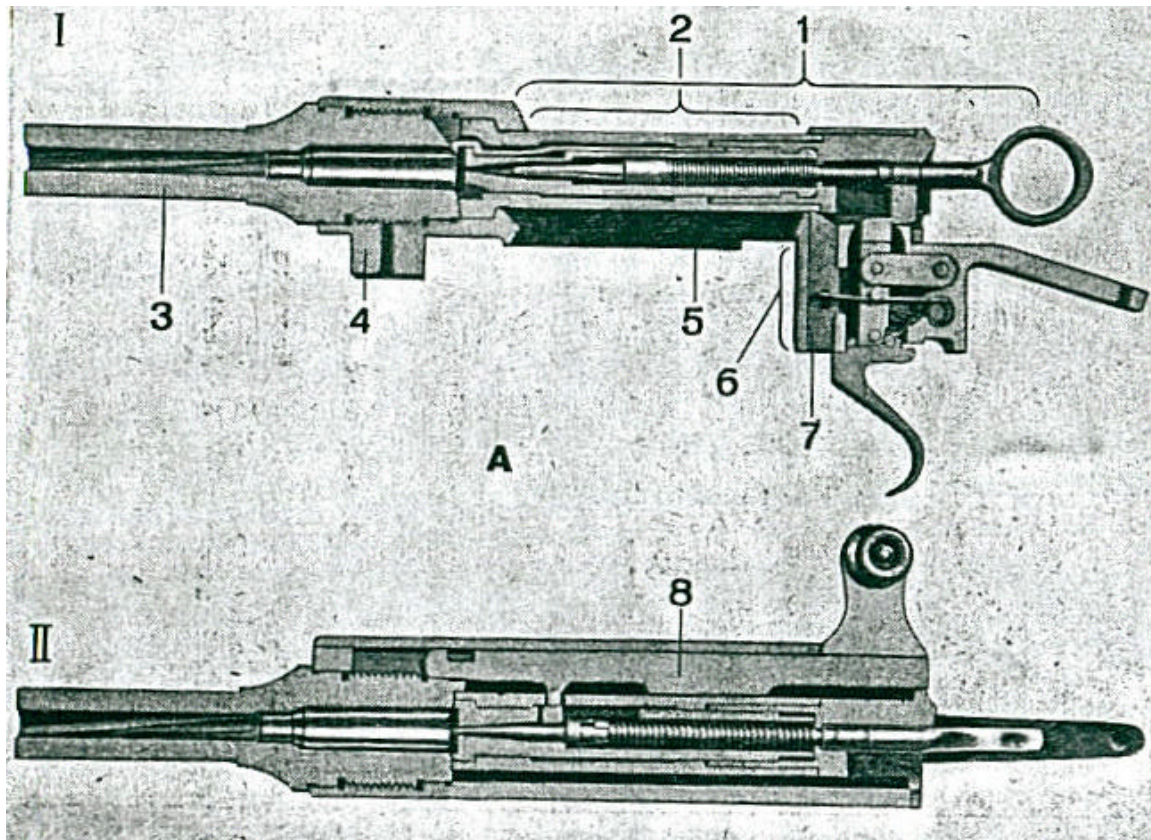

Figure 6
- The receiver (fig. 6 and 7) with the bolt stop;
- The trigger mechanism (fig. 6 and 7) with the trigger, sear and the trigger spring. The trigger spring on the Model 31 activates the ejector as well.